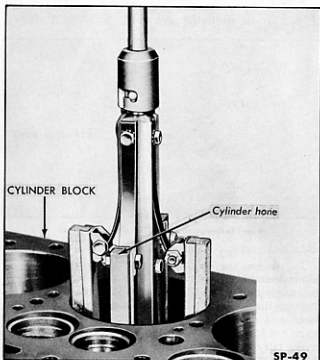

Fig. 10—Honing Cylinder Bore
2. If bore measurements are within the above limits, but indicate hollows or waviness, cylinders should be honed with 250 grit stones (Fig. 10). Pump hone up and down in cylinder while it is rotating to produce a satin-finish, diamond cross-hatched pattern approximately 30° with horizontal. Hone only enough to correct waviness.